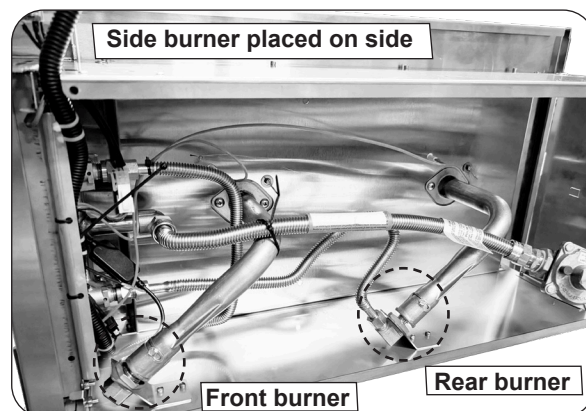

Fig. 40-1 Orifice location
2. Carefully rest the unit on its side to access both gas orifices. See Fig. 40-1.